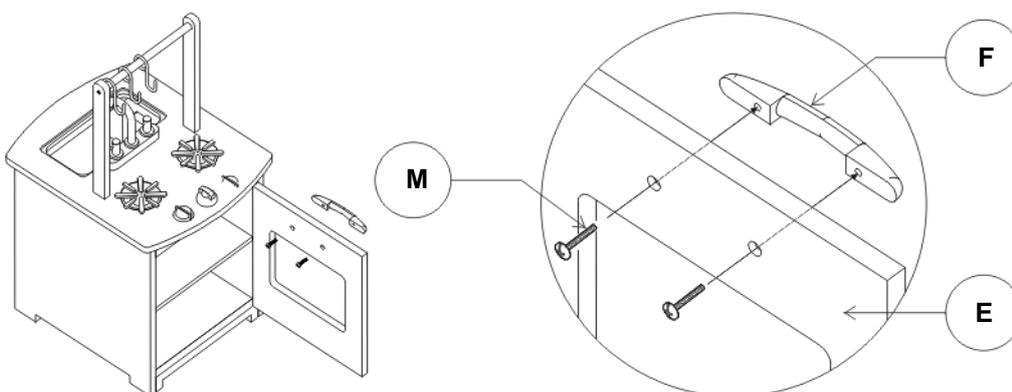

Fig. 7
7. Attach the door handle (F) onto the door of the island body (E) and secure by screwing two head bolt screws (M) using a phillips head screwdriver (not included). See fig.7.